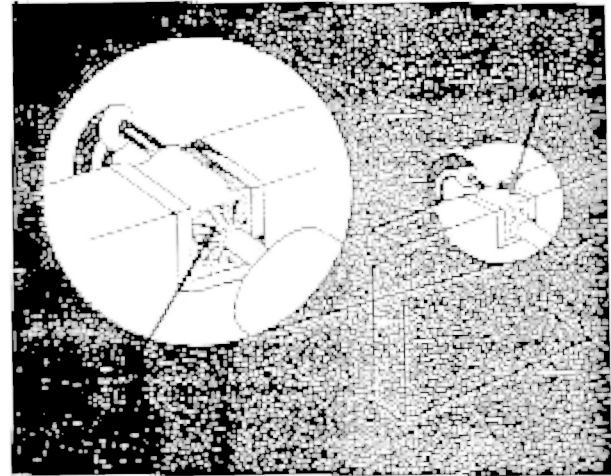

Fig. 4-3. A slight fillet of solder is formed around the wire when it is applied correctly.
4. Apply one corner of the tip to the strip where you wish to solder (see Fig. 4-3).
6. Do not attempt to fill the notch on the strip with solder; instead, apply only enough solder to cover the wires adequately, and to form a slight fillet on the wire as shown in Fig. 4-3.